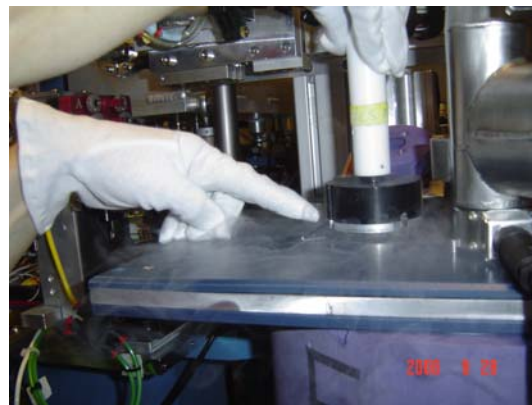
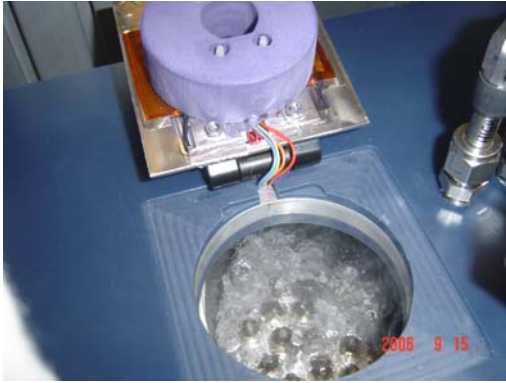

Fig.4 Position the puck over small lid opening
Fig. 5 Loaded puck in ALS dewar
- Take the puck out of LN2, bring it near the open small lid of the robot dewar, rotate the indexing groove of the puck lid towards the mark on the surface of the big dewar (Fig 4.) and move it down, until you feel, that the puck slides along the alignment post all the way down onto the bottom of the dewar puck plate (Fig. 5).
- **good alignment of the indexing groove of the puck with the indexing post of the puck mounting base in the dewar is essential**; try sliding the groove gently along the post until you reach the bottom and ‘feel’ that you are not able to rotate the puck unit any more; only then **push the rod and pull the pusher in the same time in order to separate the puck from the base** and leave just the base alone with all the samples inside of the dewar (fig.5).